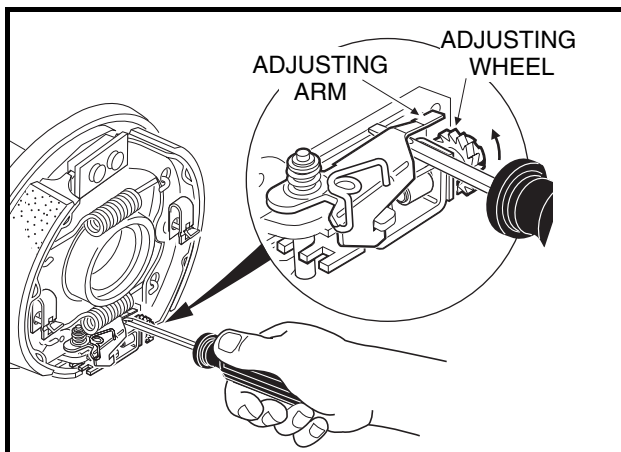

Figure 6-17 Set Adjusting Wheel
6. Place a flatblade screwdriver under the adjusting arm and raise the arm off of the adjusting wheel. While holding the arm up, turn the wheel upward until it stops (**Figure 6-17, Page 6-7**). Remove the screwdriver.